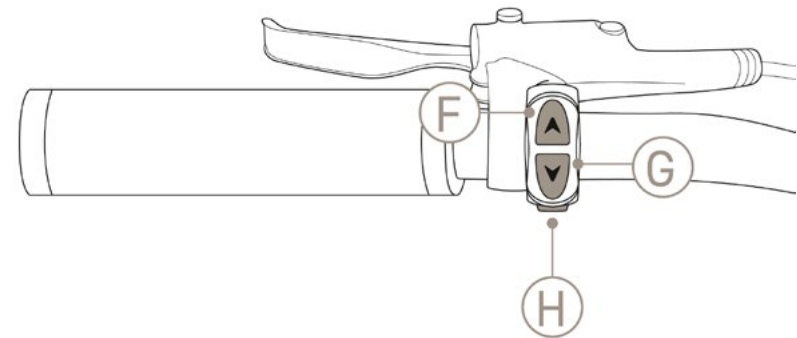

FIG. 5
To activate the walk assistance function, hold down the "DOWN" key (ref. G in Figure 5). The engine will start and the appropriate warning will appear on the display. The engine will deactivate in the following cases:
- Release of the "DOWN" button (Ref. G in Figure 5);
By pressing the "UP"+"DOWN" buttons (Ref. F - G - Figure 5) simultaneously for two seconds, it is possible to open the menu screen. From any screen, by holding down the "POWER" key for 2 seconds, you can return to the last Home screen displayed. Once entered, it is possible to move in the menu with the "UP" and "DOWN" buttons and press "POWER" to enter.
Before pressing the F and G keys at the same time (Figure 5), position yourself firmly on the bike and apply the brake, so as not to accidentally activate the start-from-standby mode.